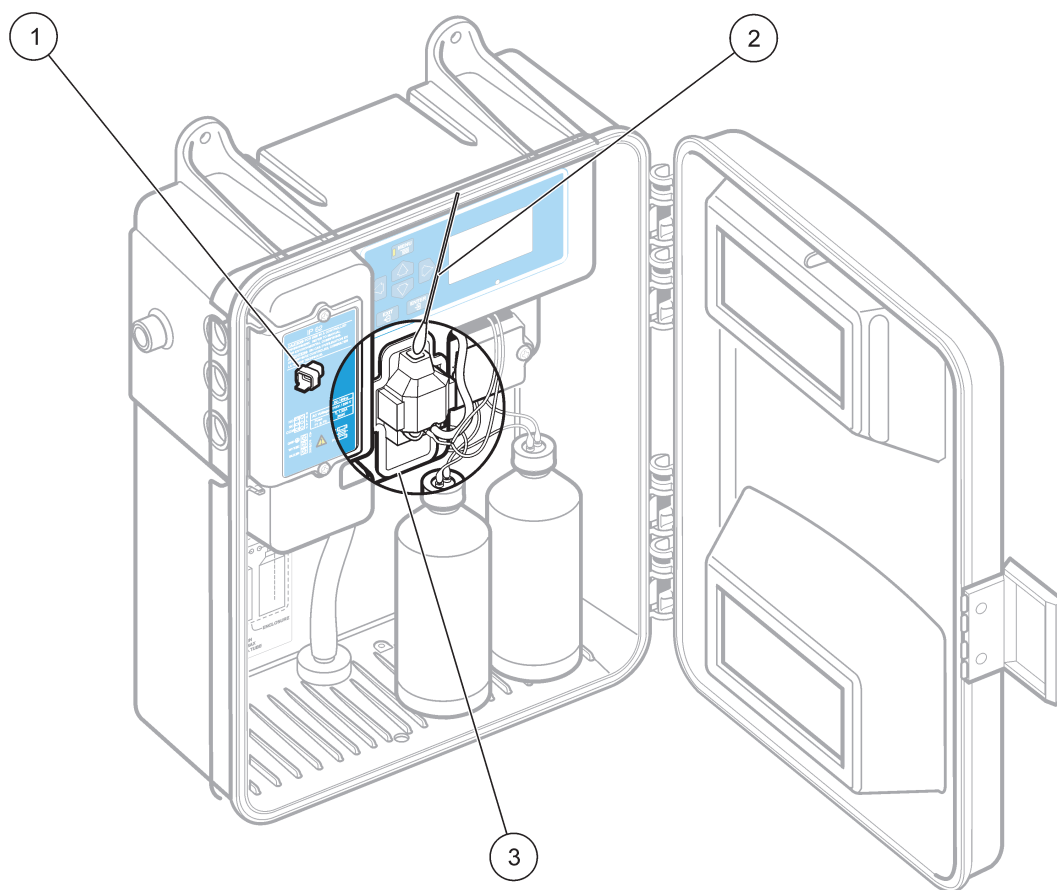

Figure 23 Cleaning the colorimeter
8. Insert a wooden or paper cotton-tipped swab* into the opening and move it up and down with a gentle scrubbing action, cleaning the interior surfaces of the colorimeter cell. Clean the stir bar with the cotton swab (Figure 23).